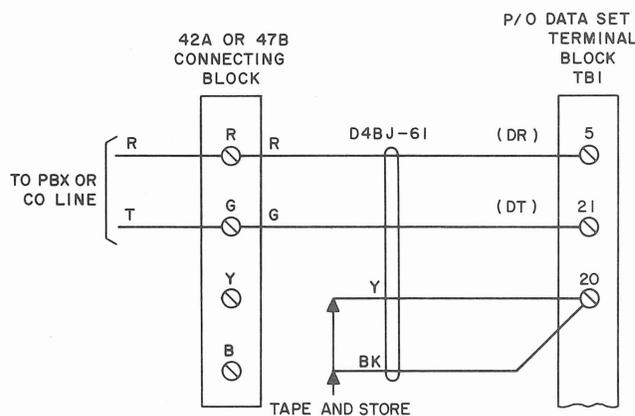

Fig. 2—Data Set 603A-Type—Connections
- The yellow and black wires of the D4BJ-61 cord were reconnected to give added protection against installation or rearrangement wiring errors. On terminal block TB1, the yellow and black wires were removed from TB1-13 and connected to TB1-20. On the 42A or 47B connecting block, the yellow and black wires should be removed from the Y and B terminals and taped and stored. Figure 2 was changed to show these new connections.
3.04 Make connections from the data set to the connecting block as shown in Fig. 2.